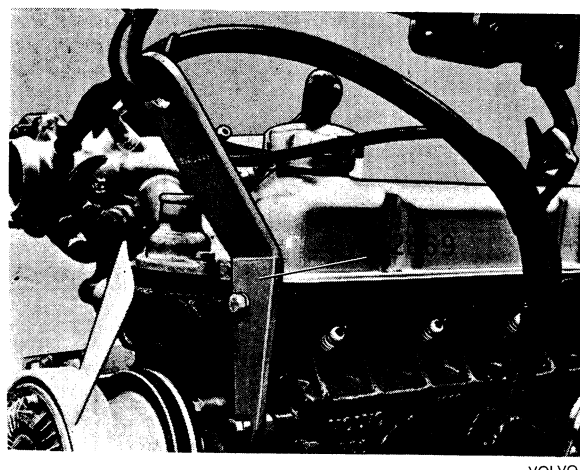
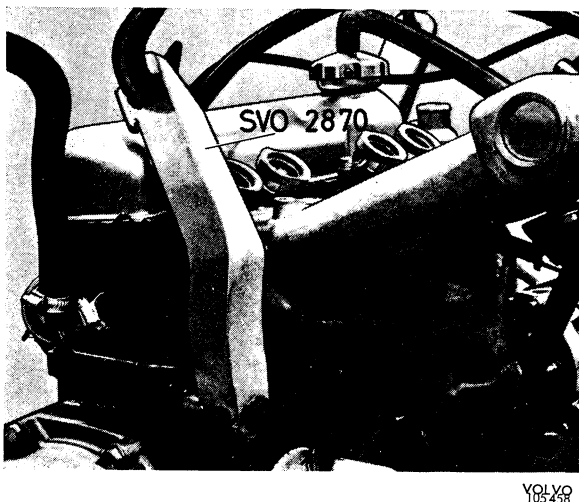

Fig. 2-10. Lifting lug on engine front end
Fig. 2-9. Lifting lug on engine rear end
19. Fit lifting lug SVO 2870 in the rear end of the engine (Fig. 2-9) and lifting lug SVO 2869 in the front end (Fig. 2-10).